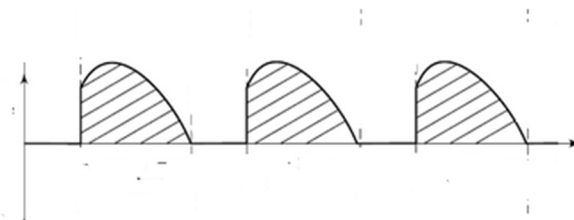

Figure 4.4: Output waveform for Single Phase Centertapped Controlled Rectifier
- Now adjust all the potentiometers, by observing the output waveform. There should be a waveform at the output (not a straight line) as shown in the Figure 4.4. Adjust potentiometers to a position that firing angles for both the SCRs approximately be the same.